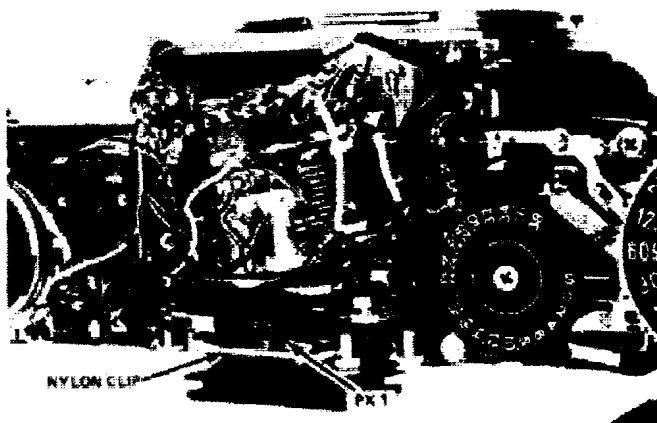
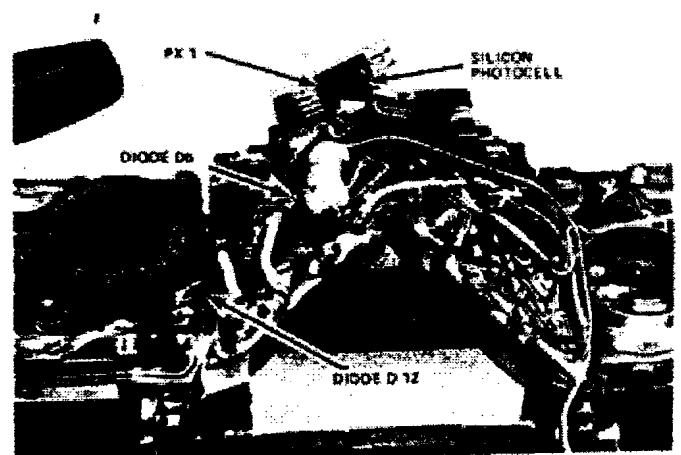

Figure 40
Figure 41
How about PX1? It's a little more difficult to see. PX1 mounts to the section of flex circuit that curls up near the eyepiece, Fig. 40. PX1 contains the silicon photocell and the MOSFET (metal oxide semiconductor field effect transistor) amplifier for the photocell.
A white nylon clip holds PX1 in place. The clip passes over the top of the IC at the back of the flex circuit, Fig. 40. To reach the IC, you can simply remove the clip. And carefully lift out the section of flex circuit containing PX1, Fig. 41.
unit. Early versions of the camera don't have this diode. Diode D_b sits on the top of the flex circuit, Fig. 41.
2. We've added diode D₁₂ at the bottom of the schematic. Early AE-1 models have a resistor R₁₂ rather than the diode. Fig. 41 also points out diode D₁₂. If you have a resistor in this position, you're